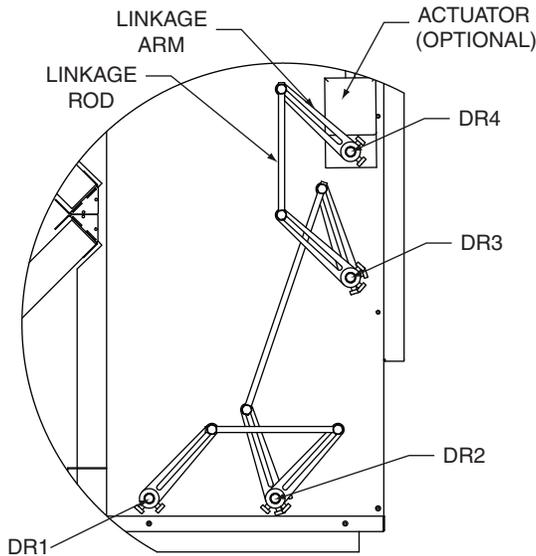

Fig. 61 — Area A Detailed View
5. Place a linkage arm onto DR3 and DR2. See Fig. 61 and 62 for proper positioning. Ensure that swivel joints are fully extended to the end of the linkage arm and tighten.